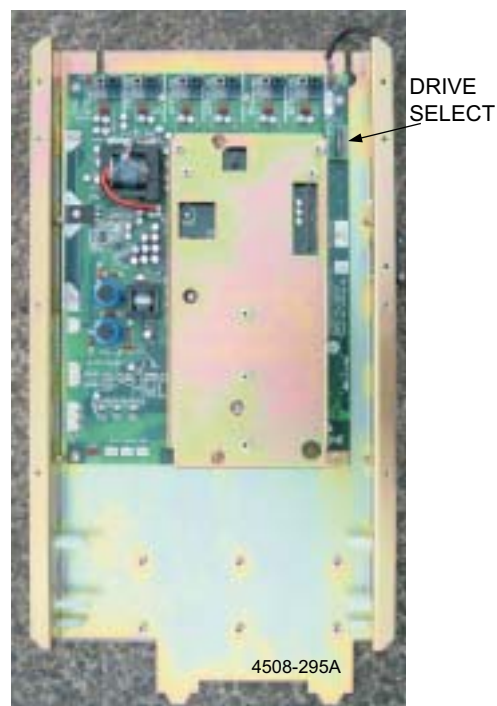
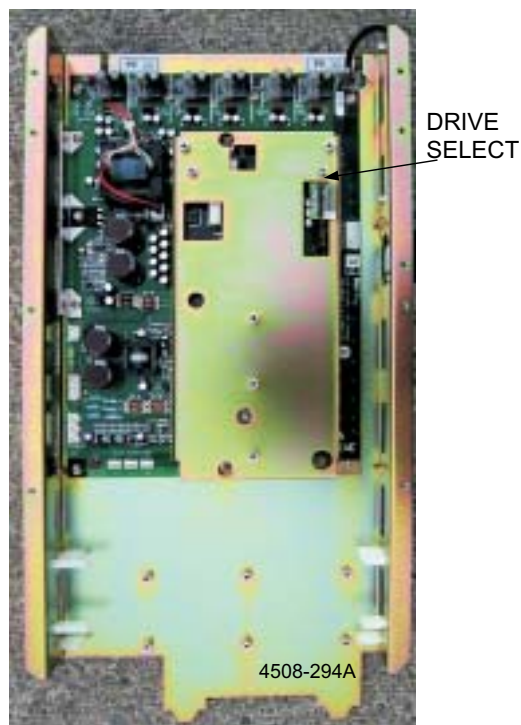

Figure 7.10: 400V Power tray
Figure 7.11: 500V Power tray
- 2) When the Control board has been removed put it onto the new Power tray. For 500V models, move the Drive Select board to the new Power tray, see figure 7.11. For 400V models, this can be done after the Control board is in place see figure 7.10.